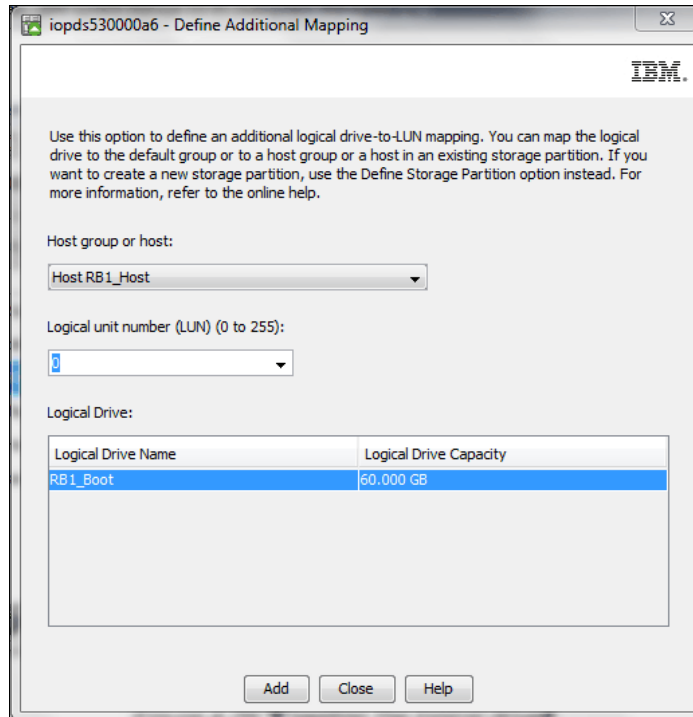

Figure 2-69 Assigning the LUN to the host
2. In the *Define Additional Mapping* window, select the host that we created previously RB1_Host. Check the LUN number. By default, it will be LUN 0, unless you have another LUN 0 assigned to this host previously. It is best practice to assign the boot LUN as LUN 0. Next, select the drive from the list in the **Logical Drive** list, as there could be more than just RB1_Boot listed. Then click **Add**, as shown in Figure 2-69.